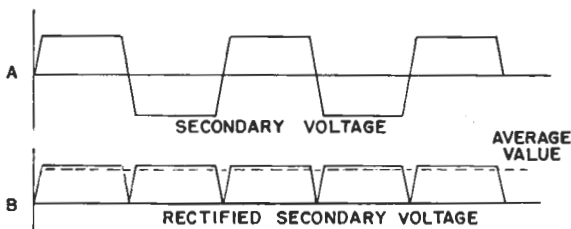

Figure 2
This action produces the effect of square-wave a-c excitation of the primary circuit—which of course is carried over to the secondary. See Figure 2 (A). Capacitor C in Figure 1 absorbs the inductive kick which occurs when the current flow is reversed. (If not suppressed, this kick would put "spikes" on the edges of the square wave, produce high surge currents through the rectifiers and cause sparking at the vibrator contacts.)
When the secondary voltage is rectified by a full-wave system, the output appears as in Figure 2 (B). Obviously, filtering this output is a relatively easy task. In addition, this wave form is extremely easy on rectifiers since the peak voltage is just slightly higher than the output voltage—resulting in relatively low peak currents through the rectifiers as compared with the usual power supply.